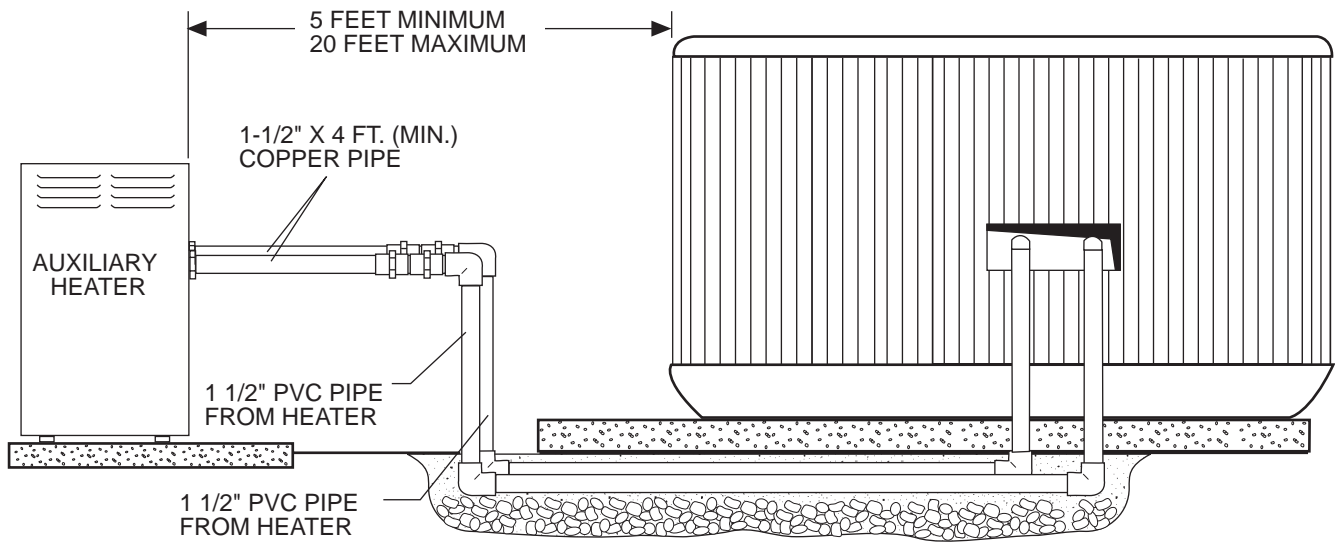

FIGURE 3. SPA WITH INTERCONNECTING PIPING TO AUXILIARY HEATER.
7. Starting at the auxiliary heater, dry fit the piping up to the spa. Refer to Figure 3. (Figure 3 is a suggested plumbing layout; actual installation sites will vary.)